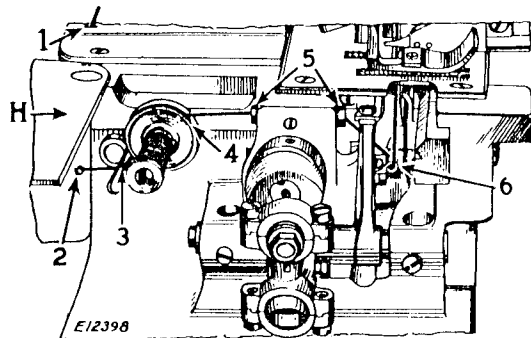

Fig. 7
Pass the thread from the unwinder down through the hole (1, Fig.7) in the frame top cover, and from back to front through the
hole (2) in the cloth plate extension. Swing cloth plate (H) to the left, then pass the thread up through the hole in the thread eyelet (3), over between the tension discs (4), and with the threading wire, supplied with the machine, draw the thread through the tube (5), down and from right to left through the thread guide (6, Figs.7 and 8), up and through the hole (7, Fig.8) in the heel of the left hand looper, and from front to back through the eye (8) of the left hand looper.